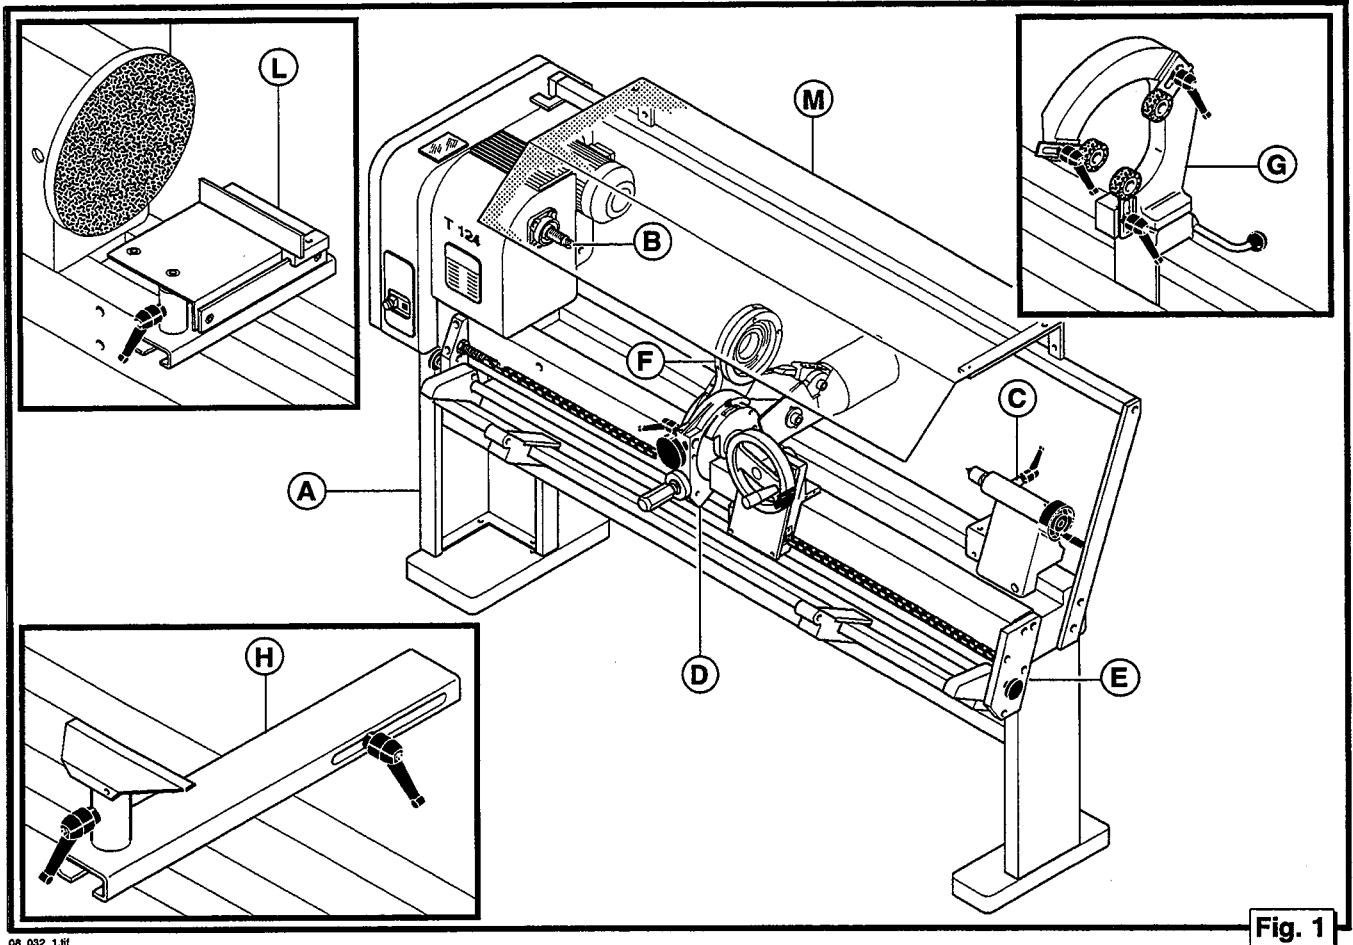

Fig. 1
2.1. BESKRIVELSE AV MASKINEN (fig.1)
2.1. BESKRIVNING AV MASKINEN (fig. 1)